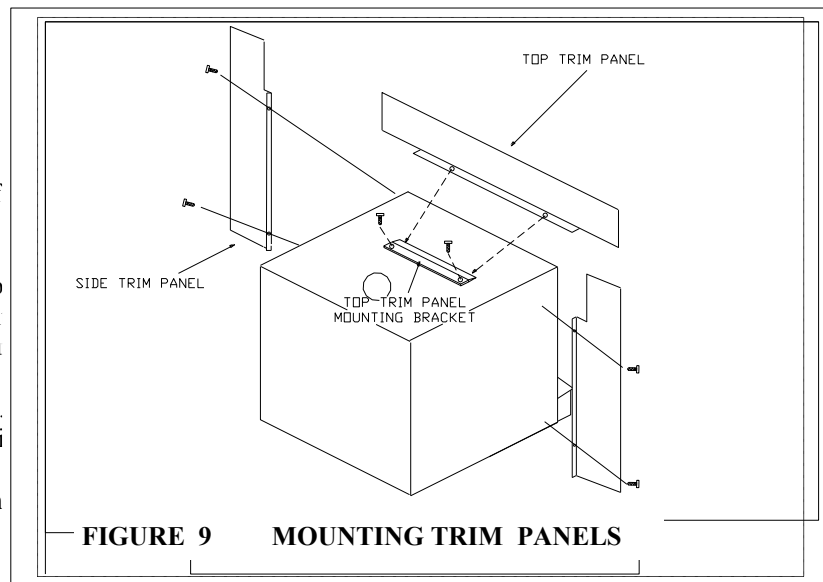

**FIGURE 8 POSITIONING**
When positioning heater, following conditions must be met! (See Figure 8).
1. The front of damper opening must be positioned **BEHIND** rear edge of lintel to ensure proper operation. (See Figure 8).